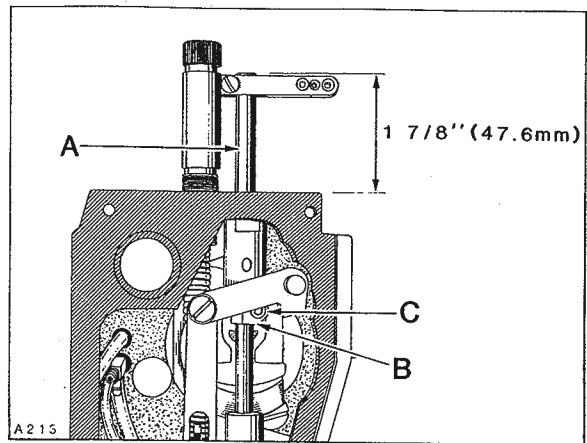
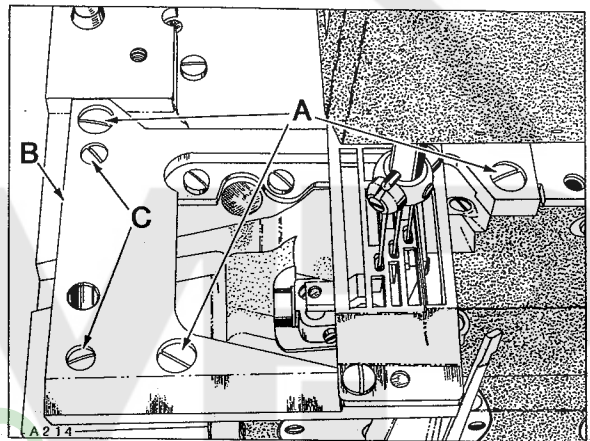

Fig. 7
Fig. 8
Insert a new set of needles. As a temporary setting, the **TOP** of needle bar (A, Fig. 7) should be approximately 1 7/8 inches (47.6mm) from the **TOP** of upper needle bar bushing when needle bar connection (B) is positioned at **TOP** of **STROKE** as shown in Figure 7.
Rotate handwheel to ensure that needles center in the needle holes of throat plate as shown in Figure 8. Adjustment can be made by loosening screw (C, Fig. 7) slightly, allowing needle bar to be rotated as required, while being careful to maintain the temporary height setting and tighten screw (C) AS SPECIFIED. An additional 4-way directional adjustment of the throat plate can be accomplished as follows:
IMPORTANT: Adjustment of throat plate must be coordinated between needles and feed dog; refer to "FEED DOG SETTINGS". Loosen three screws (A, Fig. 8) in throat plate support (B). Loosen two screws (C) which secure locating ferrules, allowing the throat plate support to be repositioned slightly. Tighten screws (C) first, then screws (A).